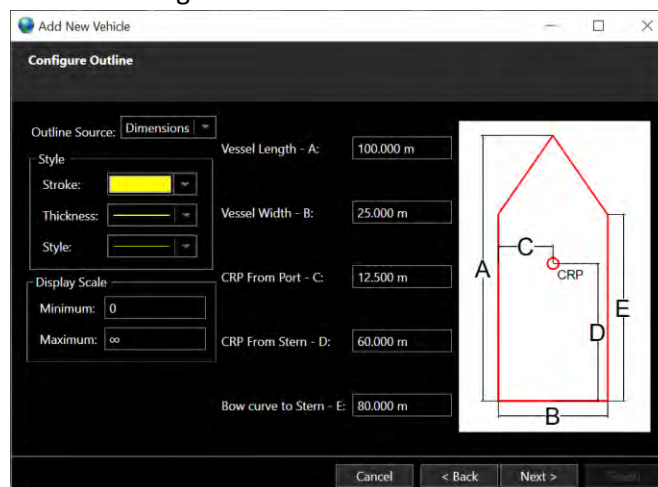

FIGURE 7-6 NEW VEHICLE WIZARD – CONFIGURE OUTLINE PAGE – DIMENSIONS
- a. **Outline Source:** From the drop-down list select how the outline will be created. The two options are from a file or by dimensions. If file is selected, then go to Import. If dimensions are selected see Figure 7-6